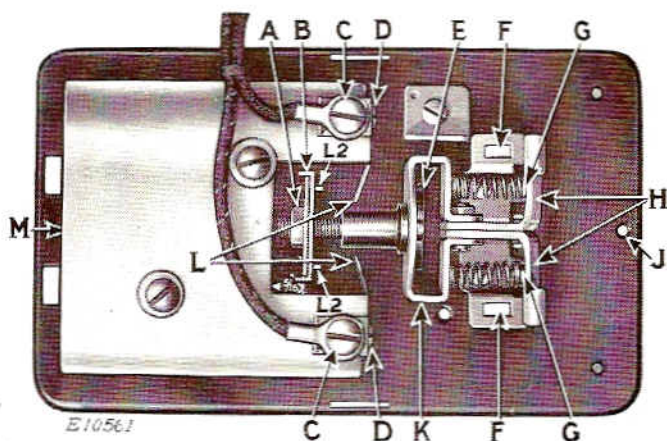
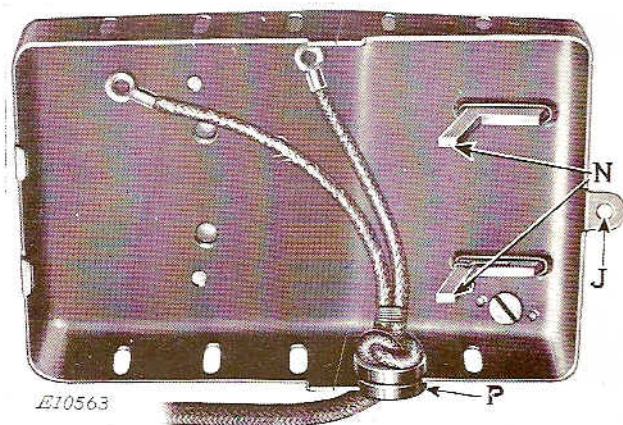

FIG. 11. EMERGENCY ADJUSTMENT OF CARBON CONTROLLER
FIG. 12. VIEW OF INSIDE OF CONTROLLER COVER
Operate the pedal of the foot controller to make sure that the mechanism does not bind. Remove the cover from the controller unit as instructed in paragraph 3, page 13, and inspect the wires and connections at (C, Fig. 11).
(SEE FIG. 11)
Take out the screw at (J, Figs. 11 and 12) and remove foot controller cover, by gently lifting up, and pushing it toward the rear.
(a)—With the bell crank (H, Fig. 11) at the "off" position against the posts (G) of the spring bracket, the face of the bakelite strip, between nut (A) and cross slide (B), should be  $\frac{5}{16}$  inch from the flat face of the porcelain as shown by Fig. 11. If the distance is not  $\frac{5}{16}$  inch, release the insulated nut (E) from its seat by pushing on the end of the pull rod at (M) and turn the nut (E) until the correct adjustment is obtained. Be sure that the nut (E) seats in the yoke (K).
Fig. 12) and insert them through the two slots (F, Fig. 11) in the spring bracket. Also put the bushing (P, Fig. 12) in place in the cut-out in the side of the foot controller cover, as shown by Fig. 12.
When the cover is properly in place, insert and tighten screw at (J, Figs. 11 and 12).